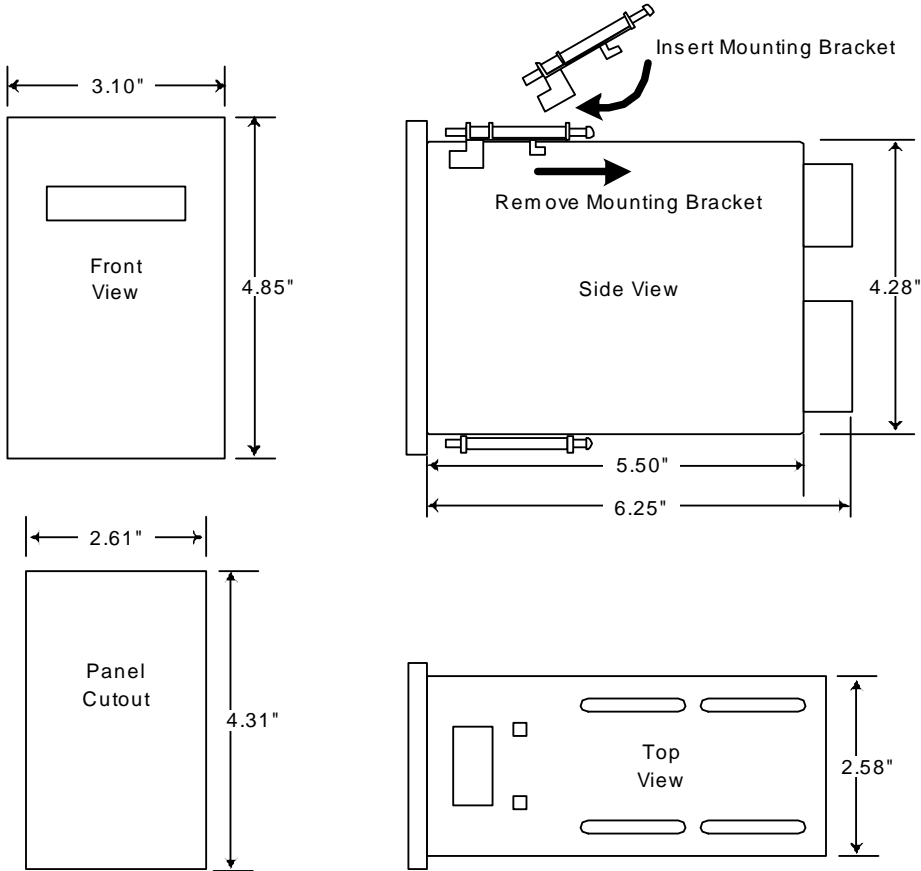

Figure 1: TR400 Dimensions
1.	Cut a rectangular hole in the panel to the dimensions shown in Figure 1.
2.	Loosen the screws holding the mounting bracket to the TR400 and remove it, as shown in Figure 1.
4.	Replace the mounting bracket and tighten the screws—do not over tighten. See Figure 1.